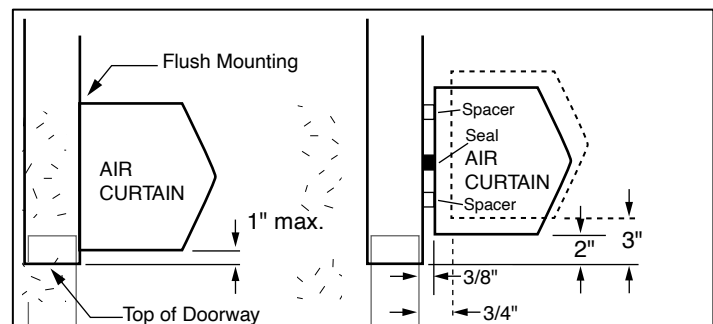

FIGURE 2 - Positioning of Air Curtain
B. For optimum performance, the bottom of the unit (discharge nozzle) should be no more than 1" above the top of the door opening with the unit mounted flush to the wall. If the unit must be mounted higher, it must be **spaced out** from the wall **3/8" for every inch** the unit is above the door opening. Any void between the air curtain and the wall should be sealed along the full length of the unit. **See FIGURE 2.**